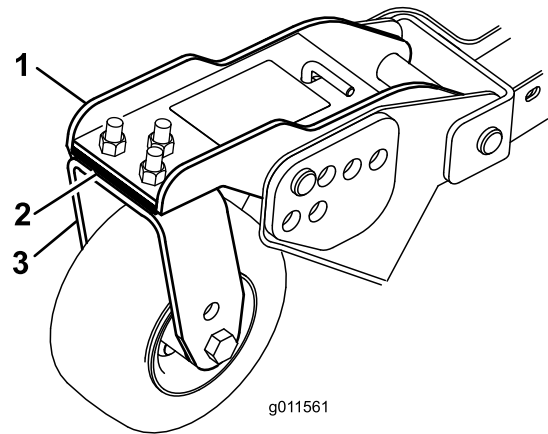

Figure 28
3. Adjust the shims (3 mm or 1/8 inch) on front caster arm(s) to match the height-of-cut decal (Figure 28).